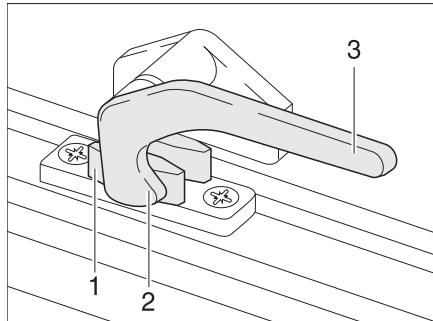
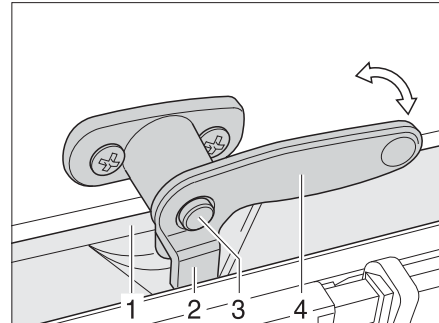

Fig. 64 Catch lever in "closed" position
Fig. 65 Catch lever with safety knob in "closed" position
- If it exists, press the safety knob (Fig. 65,3) down and hold it.
- Turn the catch lever (Fig. 64,3 or Fig. 65,4) a quarter turn towards the centre of the window.
- Turn the catch lever (Fig. 64,3 or Fig. 65,4) a quarter turn towards the centre of the window frame. The locking catch (Fig. 64,2 or Fig. 65,2) is located on the inside of the window catch (Fig. 64,1 or Fig. 65,1).
- "Firmly closed" (Fig. 64)